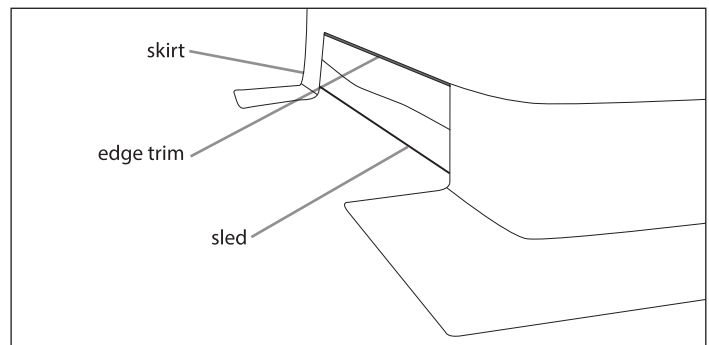

FIGURE 17
24. After attaching all of the hook and loop retainers you are ready to install the edge trim to the rear of the shelter. Move to the outside of the shelter and start by identifying the edge trim piece (69306) from the parts box. Locate the center of the edge trim piece by folding it in half. Line up the center of the edge trim to the best of your ability with the center of the rear of the shelter. **SEE FIGURE 17 (see next page)**